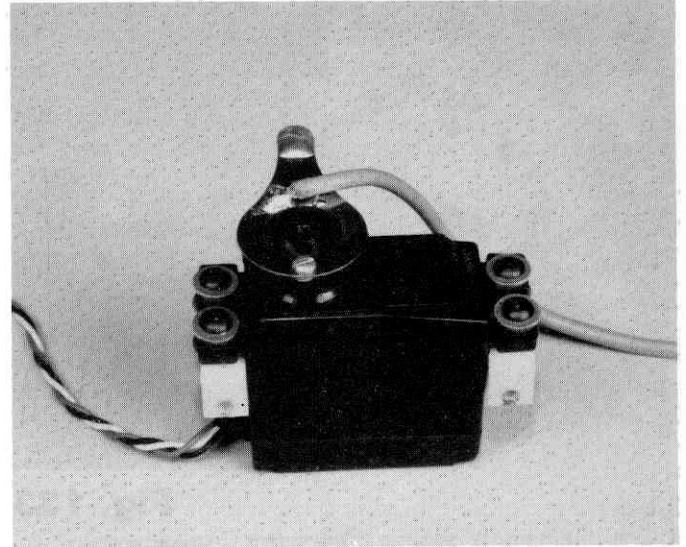

Fig. 133
□ **Fig. 133** Follow the first part of instructions for step 128 to determine the mounting position for the wiper arm and soldering the wires. It may be easier to remove the servo from the chassis to mount and solder the wiper arm and then reinstall the servo to the chassis.